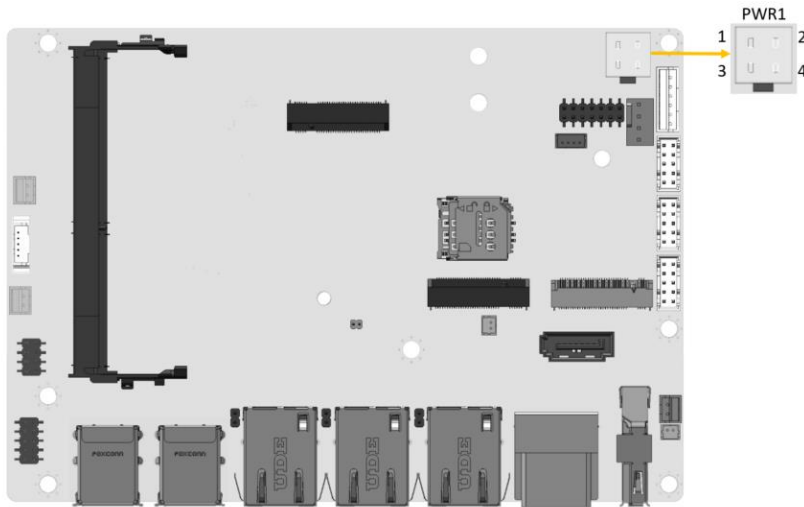

Figure 3-12: +12V DC-IN Power Connector Location
- CN Location:** See **Figure 3-12**